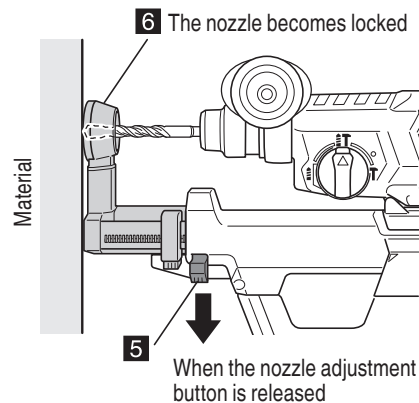

Fig. 13
- (4) Release the nozzle adjustment button to lock the position of the nozzle. (Fig. 13)